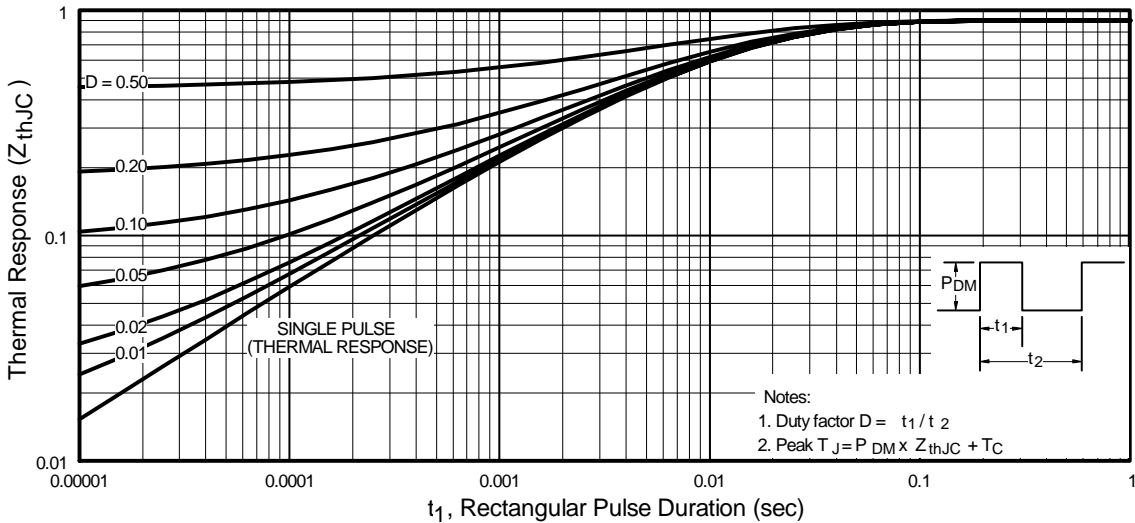

Fig 11. Maximum Effective Transient Thermal Impedance, Junction-to-Case
① Repetitive rating; pulse width limited by max. junction temperature. (See fig. 11)
② V_{DD} = 15V, starting T_J = 25°C, L = 0.18mH